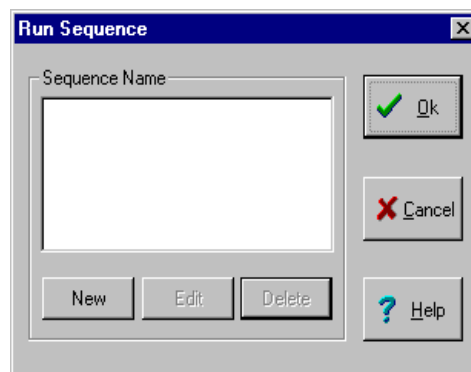

Figure 14.2 Run Sequence dialogue box
7. Select '**Execution**' from the menu bar followed by '**Define Run Sequence**' to open its window (figure 14.2)